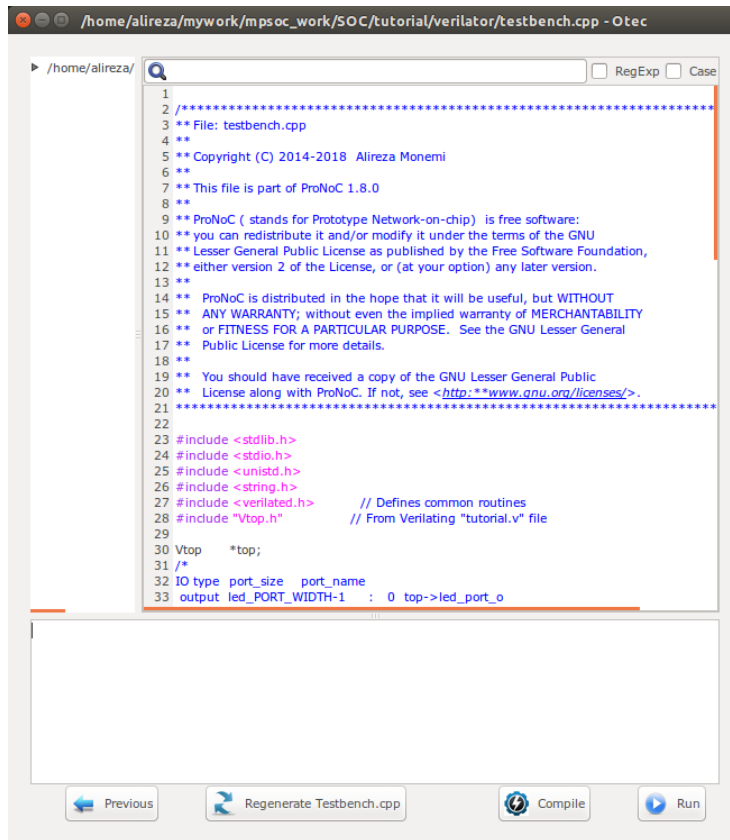

Figure 5.21: Verilator model testbench edit snapshot.
4. Now you must have the `testbench.c` opened in software code edit window as shown in Figure 5.21. This is the minimum testbench file for running the generated SoC. It has the SoC instance module connected to the clock and reset signals. You can edit this file as you wish.